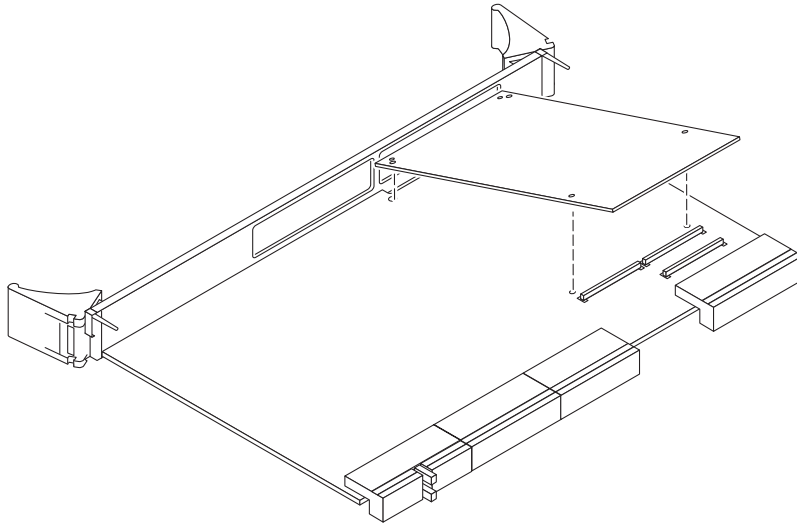

FIGURE 2-5 Inserting the PMC Into the PMC Slot
4. Press the top edge of the SO-DIMM toward the board until the retainer clips click into place (see FIGURE 2-5).
6. Insert the PMC at an angle into the appropriate PMC slot (FIGURE 2-5).